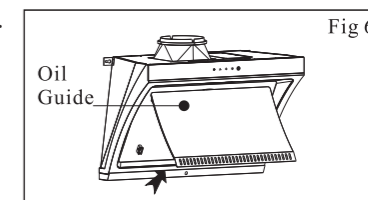

Fig 6
- c. Open the oil guide. (Fig6)